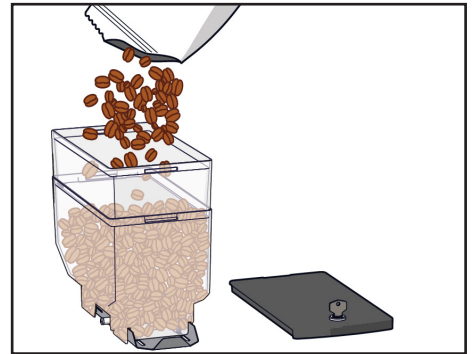

Figure 60. Fill the bean canister
5. Fill the canister with beans (see Figure 60).